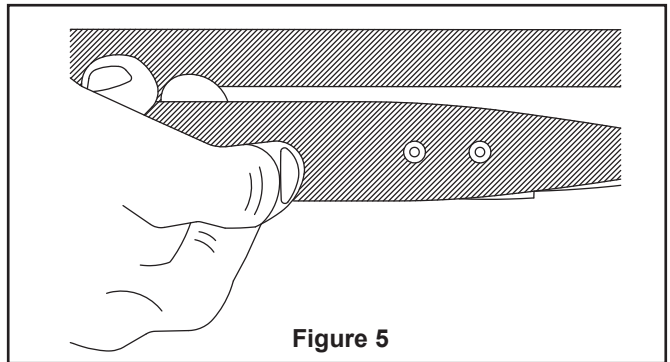

Figure 5
- 8. After connections have been made, turn leads upward and carefully push leads into the outlet box, with the white and green leads on one side of the outlet box and the black lead on the other side of the outlet box. (Figure 5)
- 10. If the motor pulley is loose, please tighten the set screws only. Do not try to adjust the motor pulley's location. (Figure 5)